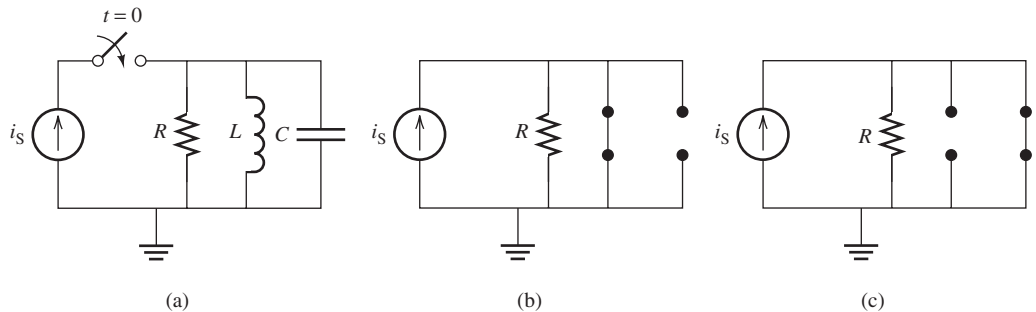

FIGURE 5.35 (a) RLC circuit; (b) DC steady state; (c) its equivalent circuit at $t = 0$.
Section 5.3 examined the DC steady state for circuits that contain a capacitor (RC) or inductor (RL). This section outlines the DC steady state for circuits that contain both an inductor and a capacitor (RLC circuits). As stated in Section 5.3, a capacitor in the DC steady state is equivalent to an open circuit and an inductor in the DC steady state is equivalent to a short circuit. The same rule is applied to RLC circuits. In other words, in Figure 5.35(a), if the key is closed for a long time period, the equivalent circuit will correspond to Figure 5.35(b). Equivalently, if the initial charge of all capacitors and inductors is zero in a circuit and a DC source is connected to the circuit at time $t = 0$, the capacitor reacts as a short circuit and the inductor reacts as an open circuit. In other words, at $t = 0$, the equivalent circuit of Figure 5.35(a) corresponds to Figure 5.35(c).